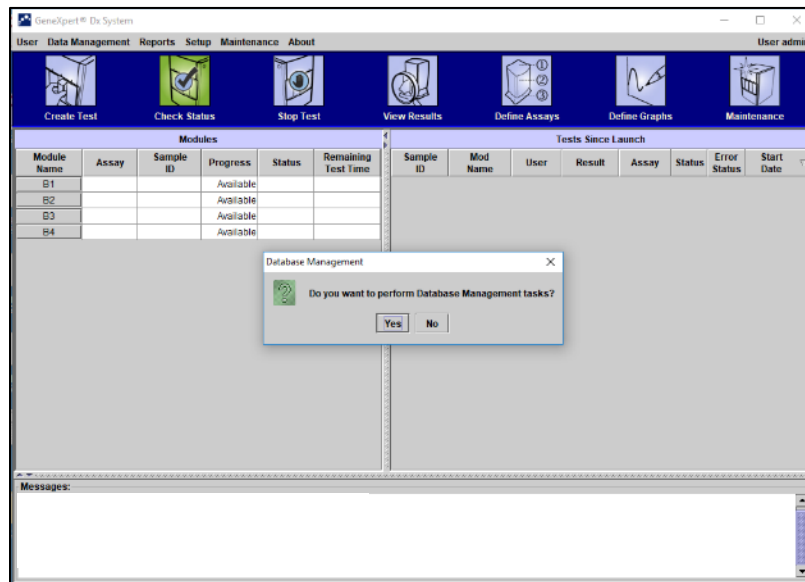

Figure 7. Database management task prompt
- F. After launching, the GeneXpert Dx software may display the prompt “Do you want to perform Database Management tasks?” (Figure 7.).